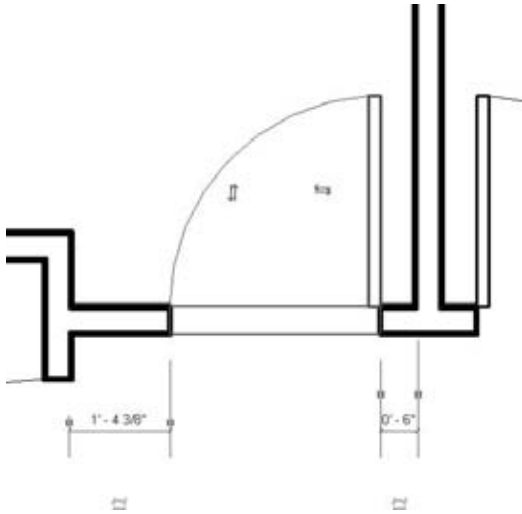

Figure 4.97
4. Use the temporary dimensions to get the door opening 6" (15 cm) from the stud face of the wall, as shown in Figure 4.97.